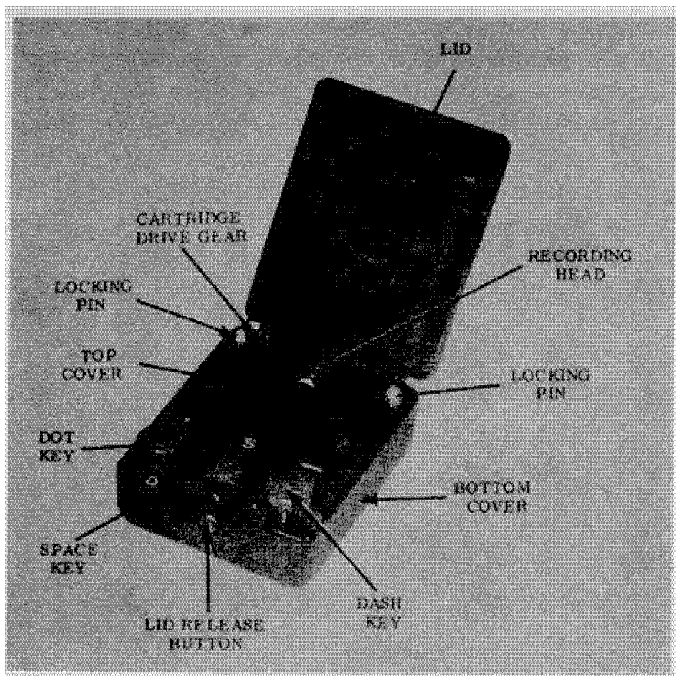

Figure 1-3. CO/3B Coder.
1.2.2 CO-3B Coder (MX-4495/GRA-71). The CO-3B Coder (fig. 1-3), like the CO/B8, is also an electromechanical Morse code generator that enables an operator to record coded messages in a CA-3B Cartridge. Essentially, the purpose of the CO-3B Coder is the same as the CO/B8: to generate magnetic impulses for subsequent recording on magnetic recording tape.